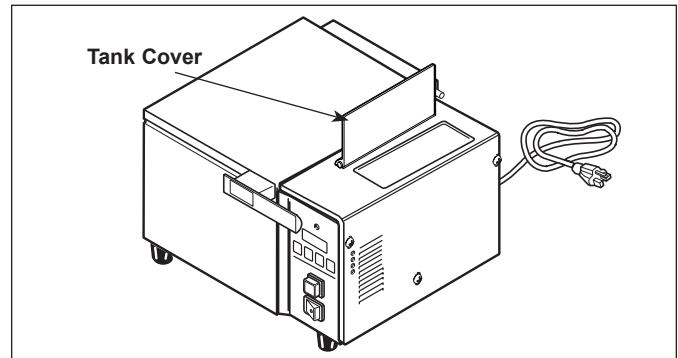

Figure 3. Filling Water Tank DFW/DFWT-100/150
1. Open the Tank Cover on top of the unit (Figure 3).